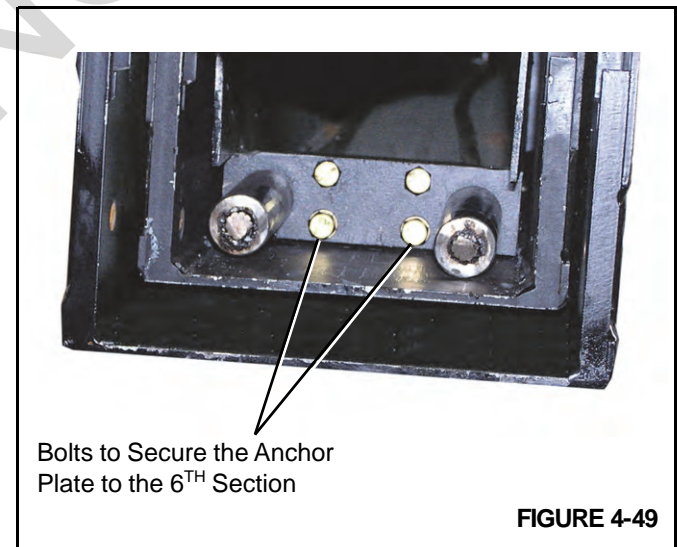

FIGURE 4-49
- Push the cylinder into the 6TH-5TH-4TH assembly until the cable anchor bracket contacts the back of the 6TH section (Figure 4-49).